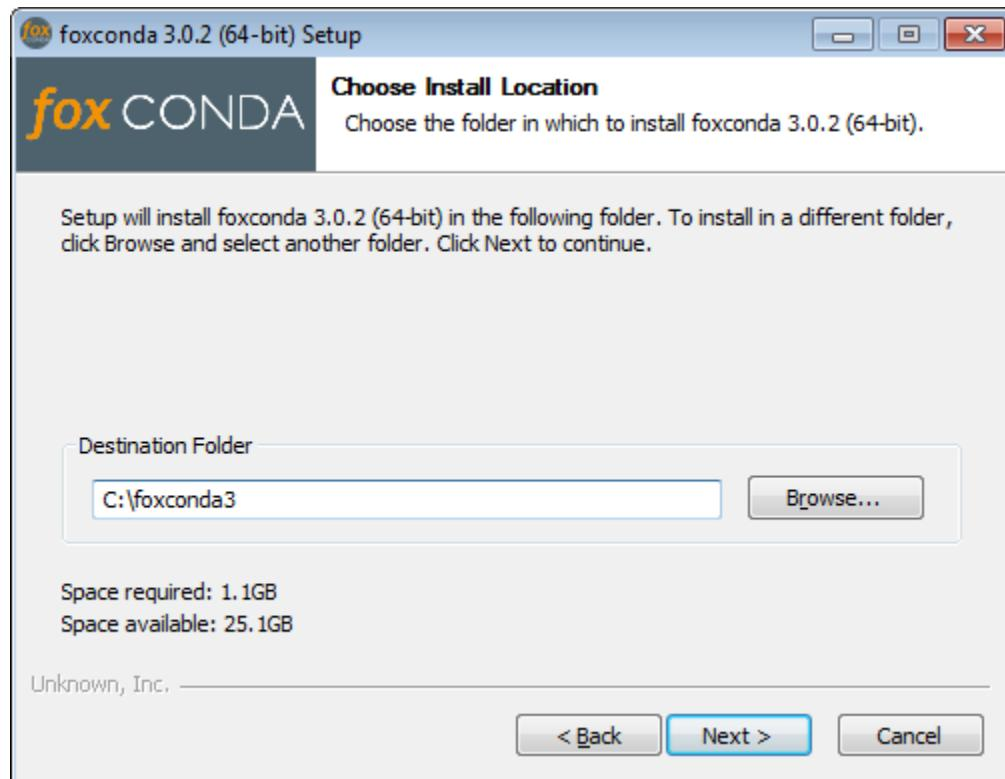

Fig. 9.4: Installation directory
- Fig. 9.4 provides the choice of**